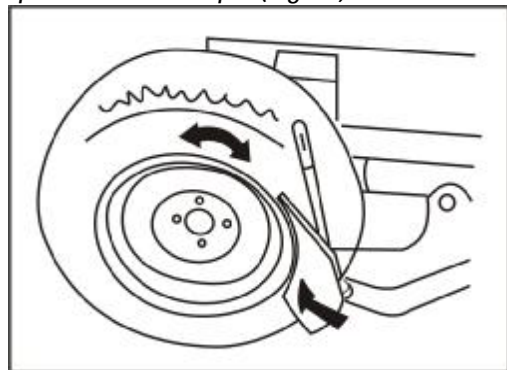

Fig.05
- I Place the tyre between the bead breaker shoe and rubber pad and position the bead breaker shoe max 1 cm away from the rim flange (Fig. 05). Depress pedal "↳" to unseat bead from rim.